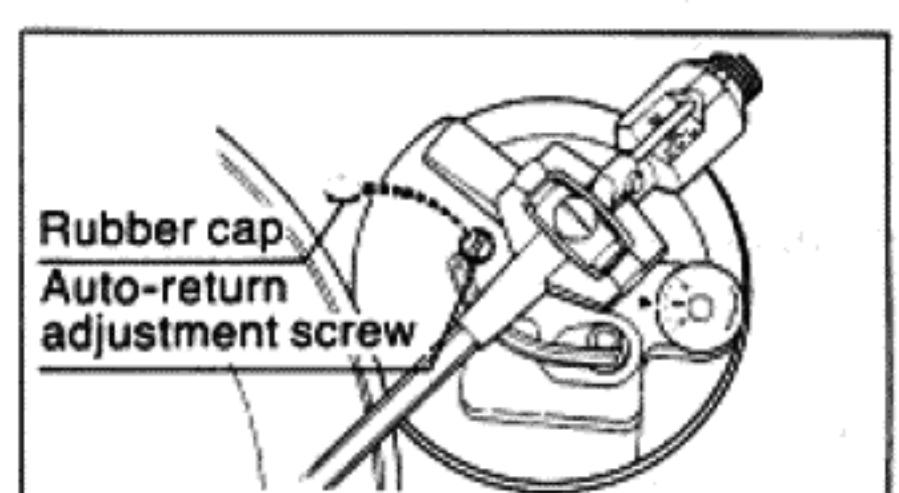

Fig. 16
• Adjustment of automatic start position (Fig. 16)